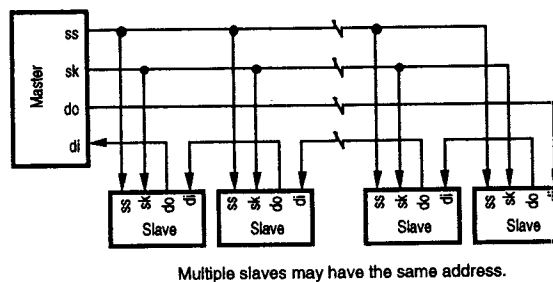

Figure 14. SPI System Configuration (Z86E06 Only)
SPI Operation (Z86E06 only). The SPI is used in one of two modes: either as system slave, or as system master. Several of the possible system configurations are shown in Figure 14. In the slave mode, data transfer starts when the slave select (SS) pin goes active. Data is transferred into the slave's SPI Shift Register through the DI pin, which has the same address as the RxBUF Register. After a byte of data has been received by the SPI Shift Register, a Receive Character Available (RCA/IRQ3) flag and interrupt is generated. The next byte of data will be received at this time. The RxBUF Register must be cleared, or a Receive Character Overrun (RxCharOverrun) flag will be set in the SCON Register, and the data in the RxBUF Register will be overwritten. When the communication between the master and slave is complete, the SS goes inactive.